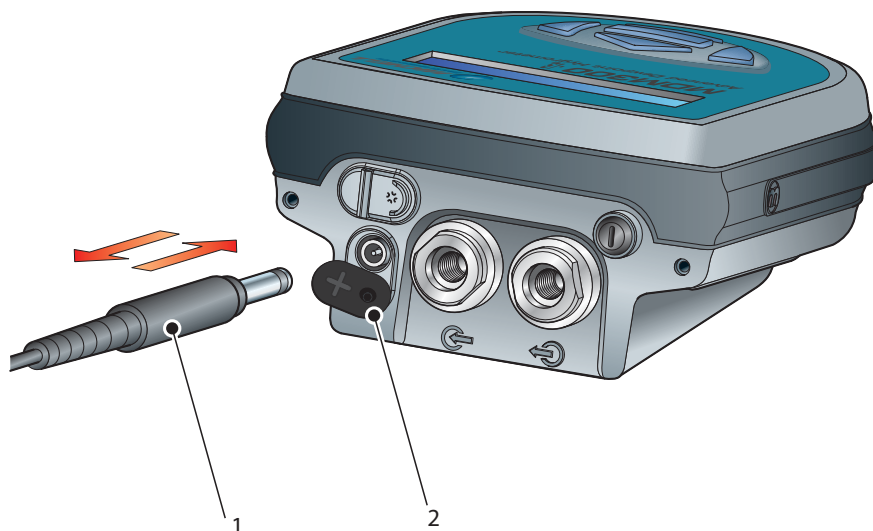

Figure 12 *Battery Charger Connection*
Loosen the securing screw and swing aside the sealing cover (2). Insert the battery charger connector (1) into the charger connector as shown in *Figure 12*.